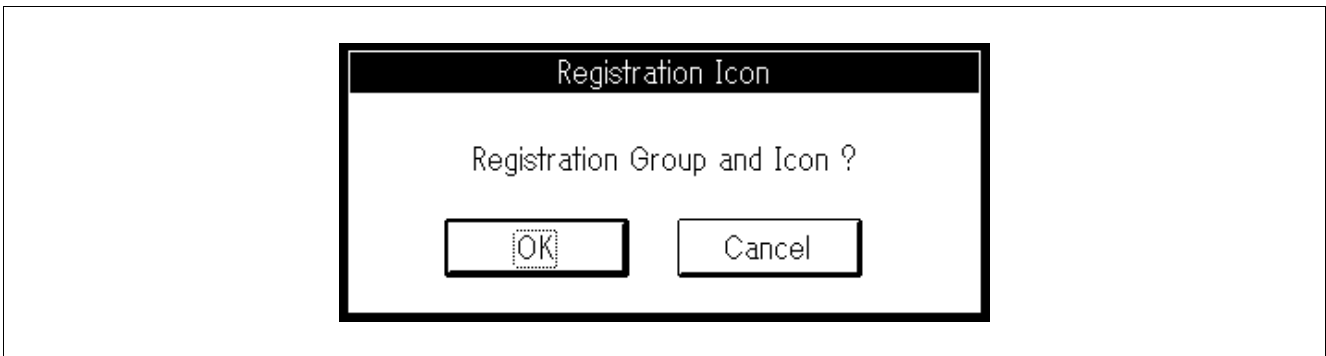

Figure 2-3 Group and Icon Registration Confirmation Message
5. When copying is completed, the message shown in figure 2-3 is displayed. When [OK] is selected, the FLASH groups and the on-board writing tool icon are registered to the program manager, and installation is terminated. When [Cancel] is selected, the installation is canceled without registering the group and the icon.